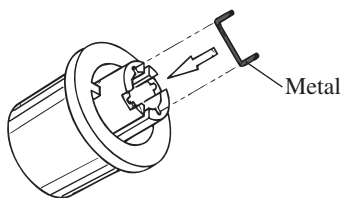

Fig.3-7 Metal Fitting inside the Bushing
- If you intend to re-install the knob, keep it in a safe place. There is a metal fitting inside the knob's bushing that engages with the axis of a variable resistor (see Fig.3-7). Even when you remove a knob, this metal fitting does not usually come off the knob. However, if it does come off, place it inside the knob's bushing.